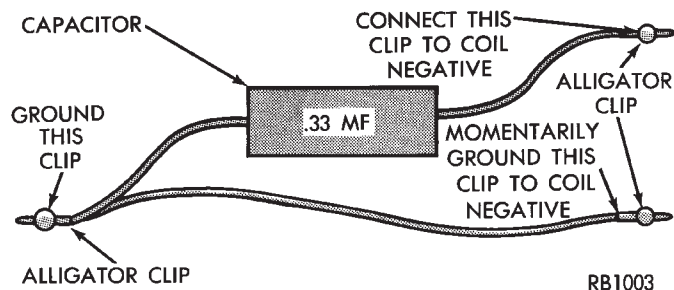

Fig. 11 Special Jumper Ground-to-Coil Negative Terminal
(7) Make the special jumper shown in (Fig. 11). Using the jumper, **momentarily** ground the ignition coil driver circuit at the PCM connector (cavity A-7). For cavity/terminal location of this circuit, refer to Group 8W, Wiring. A spark should be generated at the coil cable when the ground is removed.